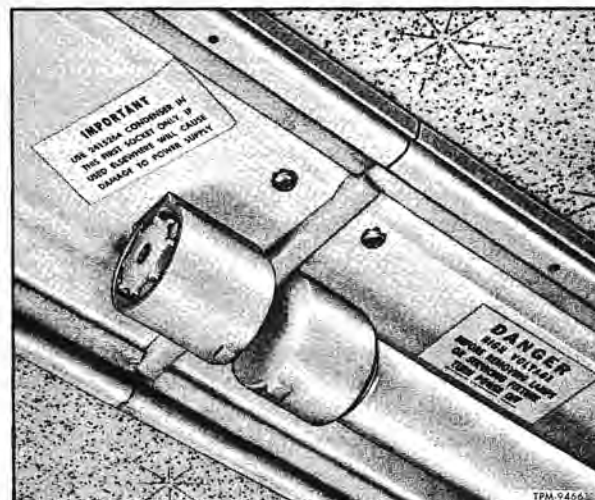

Figure 8—Dome Lamp Caution Stickers
NOTE: Refer to figure 8 and observe the caution stickers that are shown, before any repair or checks are made on the fluorescent lighting system.
**NOTE:** The socket at the rear end of dome light nearest the destination sign uses 2415264 capacitor. This capacitor is used in this socket only. If used elsewhere it will cause damage to power supply. Refer to figure 8.